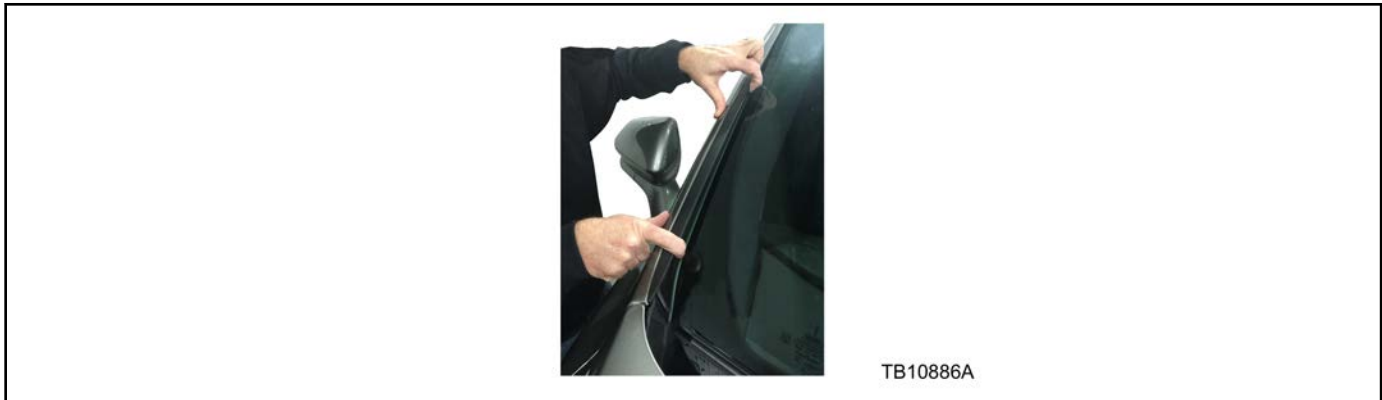

Figure 5 - Article 16-0088
- a. Continue the stuffer installation by slowly rotating it into place. Apply finger pressure to set the tape to the windshield moulding. (Figure 5)